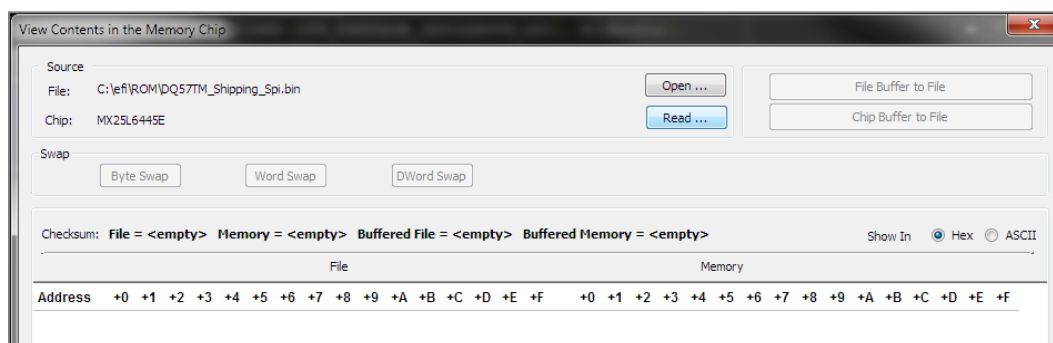

Figure 3-8. View Content in the Memory Chip display
4. Click the **Edit** icon in the top menu bar (see Figure 3-7). The application then displays the View Contents window (see Figure 3-8).
5. Click **Edit**. When you click the Edit icon, the View Contents window is displayed (see Figure 3-8).